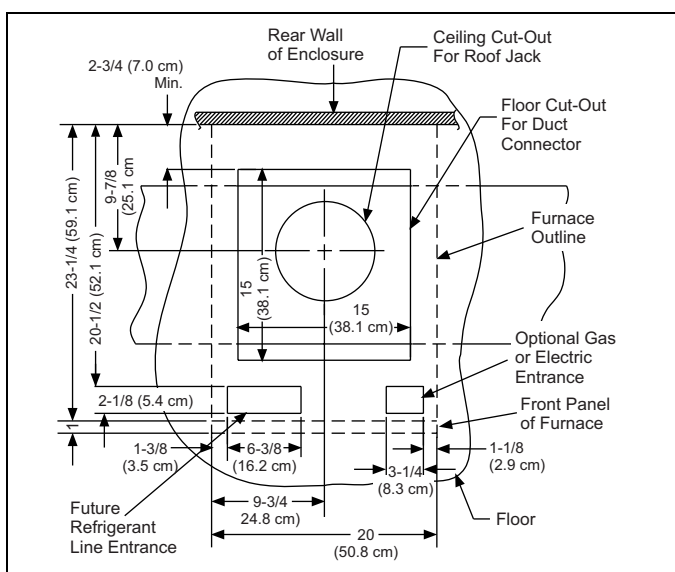

FIGURE 8: Recommended Floor Cut-out
1. Make floor cut out as shown in Figure 8.